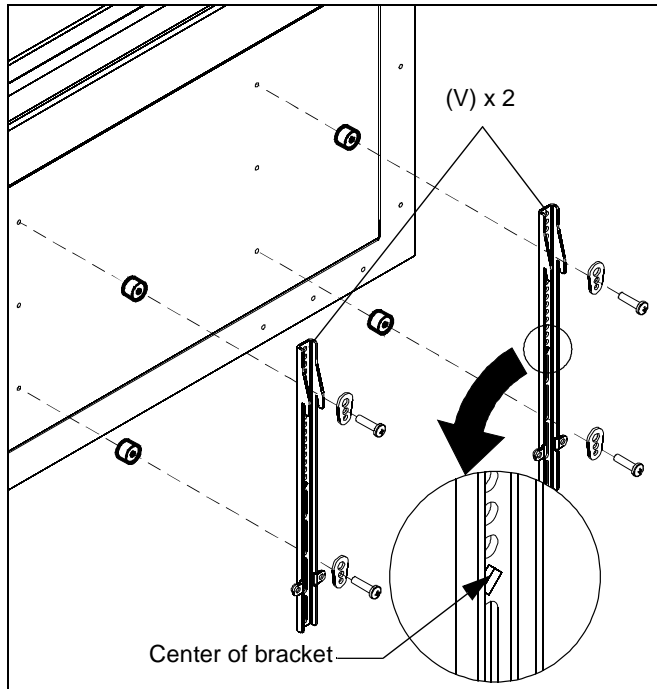

Figure 24
1. Align the center of the interface bracket (V) with center of screen. (See Figure 24)
2. Select correct screws, spacers (if necessary) and universal washers from the hardware bag (A-N) and attach brackets (V) to back of display. (See Figure 24)